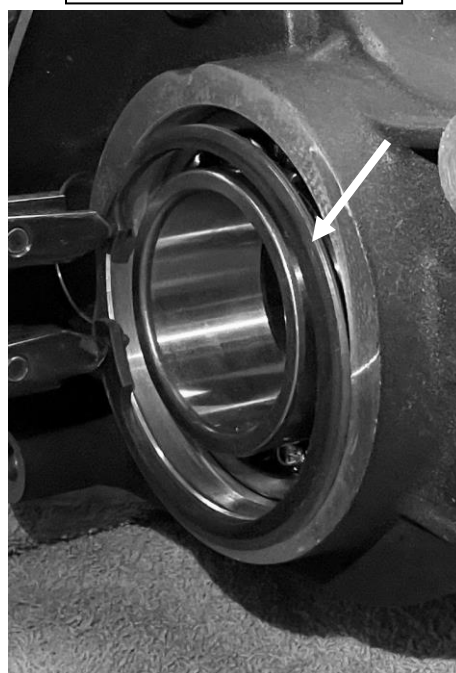

FIGURE 11 | INSTALLING THE BEVELED RETAINING RING WITH BEVEL FACING OUTWARD
4. With the bearing firmly seated against the landing at the bottom of the main drive gear bearing bore, install the P/N VHO-334STPA retaining ring with the beveled side facing out, as shown in figure 11.